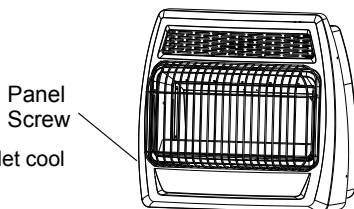

Fig. 30
**NOTE:** Before servicing you will need to remove the front panel of the heater. There are 4 Philips head screws, 2 on the left side and 2 on the right, securing the front panel to the heater (See Fig. 30). Always allow the unit to cool for at least thirty minutes before attempting to remove the front panel.